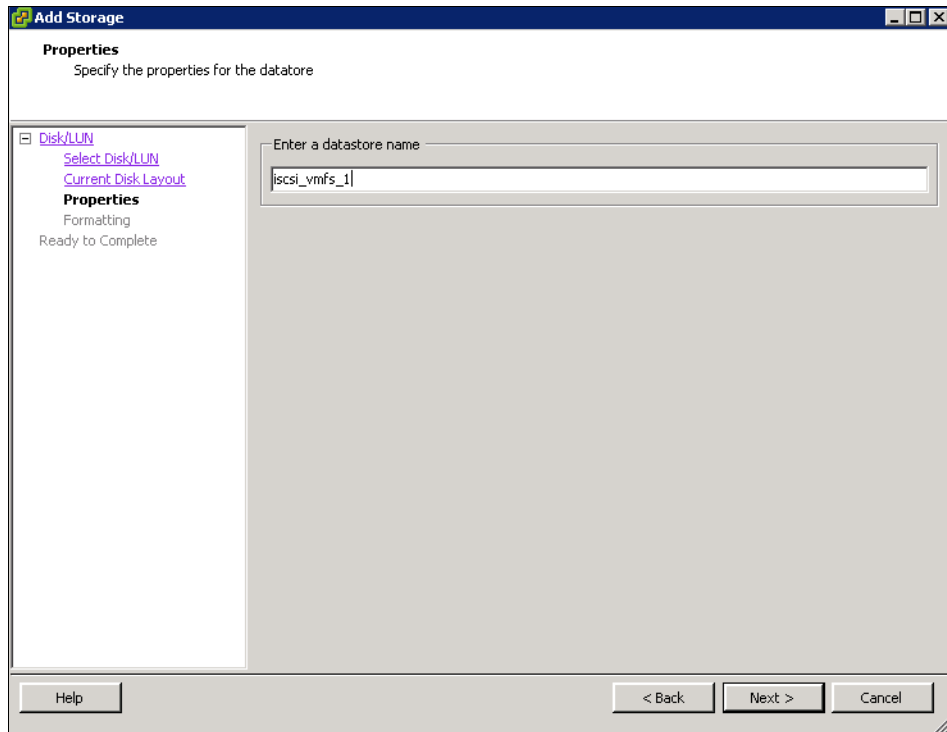

Figure 12-58 Enter a data store name
10. Enter a name for the data store and click **Next** (Figure 12-58).